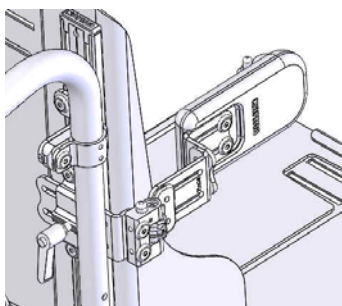

Figure 5-126
5.3.10.1 Trunk support is shown as Figure 5-126